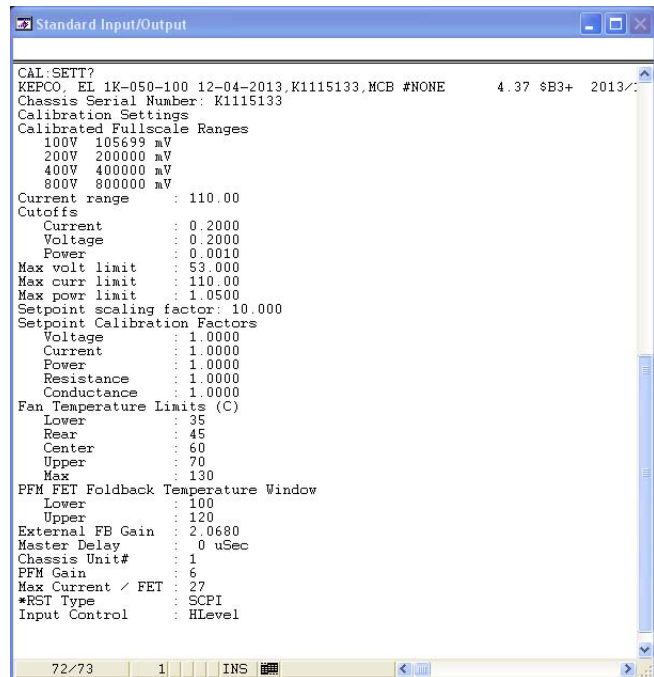

FIGURE 7. STANDARD INPUT/OUTPUT WINDOW, RESTORING CALDATA
3. The **Standard Input/Output** window opens (see Figure 7) showing that the restore process is started, listing the new settings.